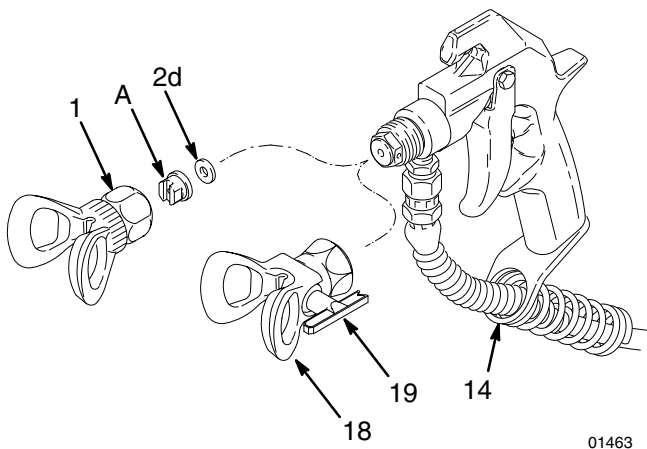

Fig. 2
1. Guide a grounded fluid hose (with spring guard) through the hose guard (14) and connect the hose to the gun inlet. See Fig. 2.
4. Model 235–459: Unscrew the tip guard (1) and install the tip (A) and the gasket (2d) in the nut of the tip guard. Screw the assembly firmly onto the gun. Tighten the assembly with a wrench. See Fig. 2.
5. Models 235–459 and 237–691: install the SwitchTip (19) and the tip guard (18). See manual 308–644, supplied.